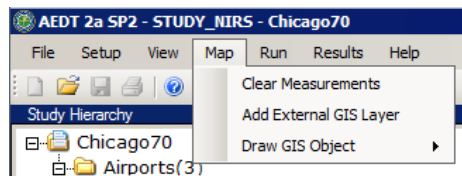

Figure 5-3 Add External GIS Layer from Map Menu
1. From the menu bar select *Map, Add External GIS Layer* (Figure 5-3). The *Open External GIS Layer* dialog box will open.